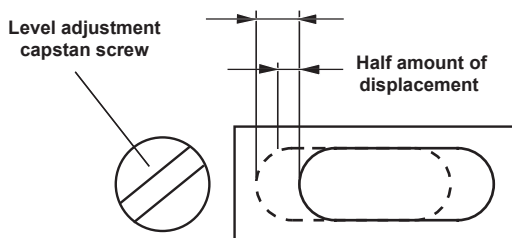

Figure A-3. Adjusting the Plate Level
1. Adjust the level adjustment capstan screw, with the accessory adjusting pin and return the bubble to the center of the plate level. This corrects only half of the displacement (Figure A-3).